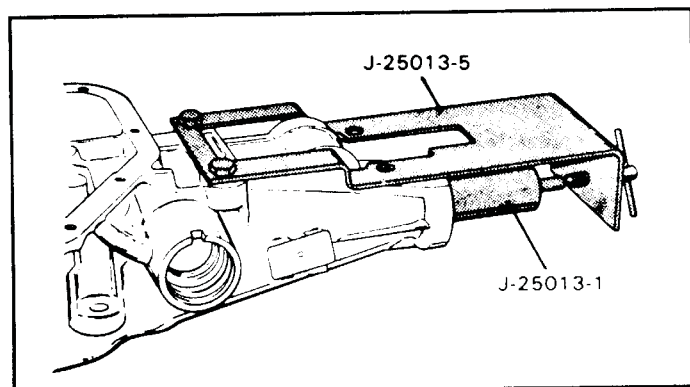

Figure 42
34. Install output shaft and rear support fixture at this time, as shown in Figure 42.
40. DO NOT remove the output shaft and the rear support tool, leave in place (See Figure 42).